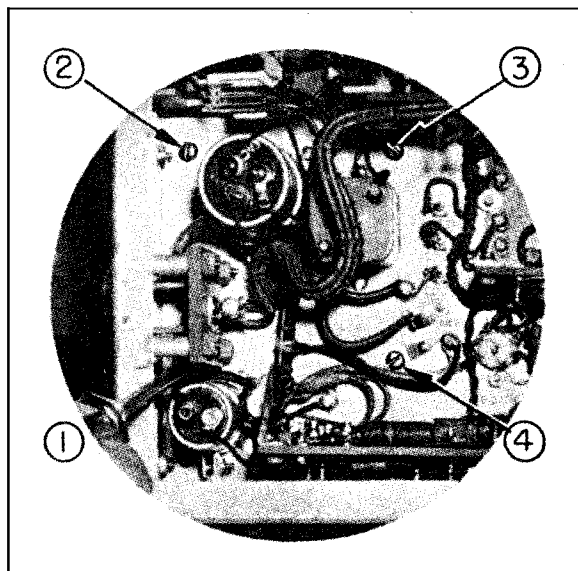

Figure 7-9A.—Power Supply Removal.
(2) Remove the four screws securing the power supply to the main chassis (figure 7-9A) and lower the power supply away from the main unit.
(3) Remove the bottom-plate holding screws.